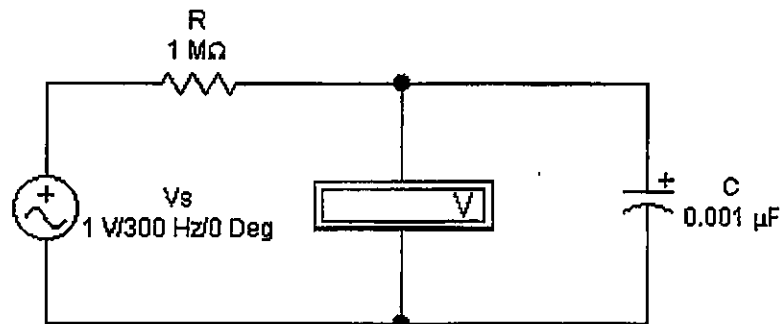

Fig 3.2
6- Set up the circuit of Figure 3.2
- 12- Using the circuit of Figure 3.2, replace the 1 Megohm resistor with 150K ohm resistor, set the AF generator for the frequency computed in Step 11 at an output of 1 volts. Read and record V_c in Table 3.2.